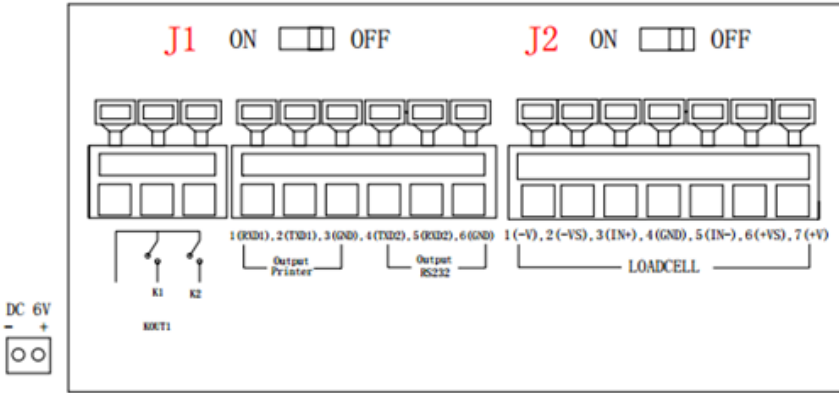

Fig. 8.2 Sockets on Circuit Board for 805BS-B-H and earlier models
For the 805BS series and earlier models, use connection ports RXD1, TXD1, and GND1 shown in Fig.8.2. To ensure the indicator is able to print on command set the serial mode (F4.3) equal to comm (1).